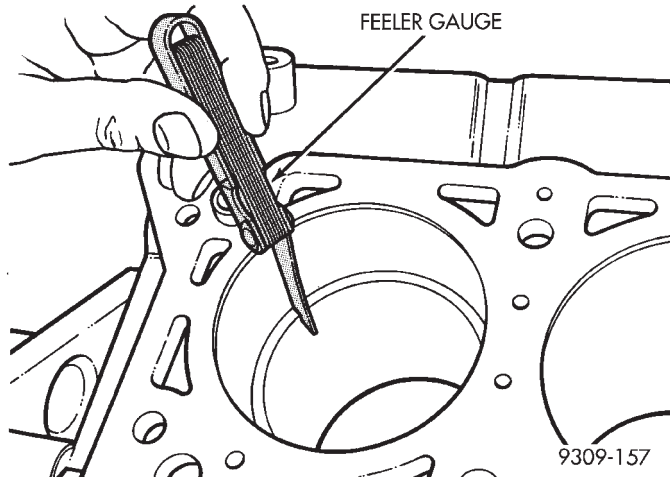

Fig. 9 Check Gap on Piston Rings
(1) Wipe cylinder bore clean. Insert ring and push down with piston to ensure it is square in bore. The ring gap measurement must be made with the ring positioning at least 12 mm (0.50 inch.) from bottom of cylinder bore. Check gap with feeler gauge (Fig. 9). Refer to specifications (Fig. 10).